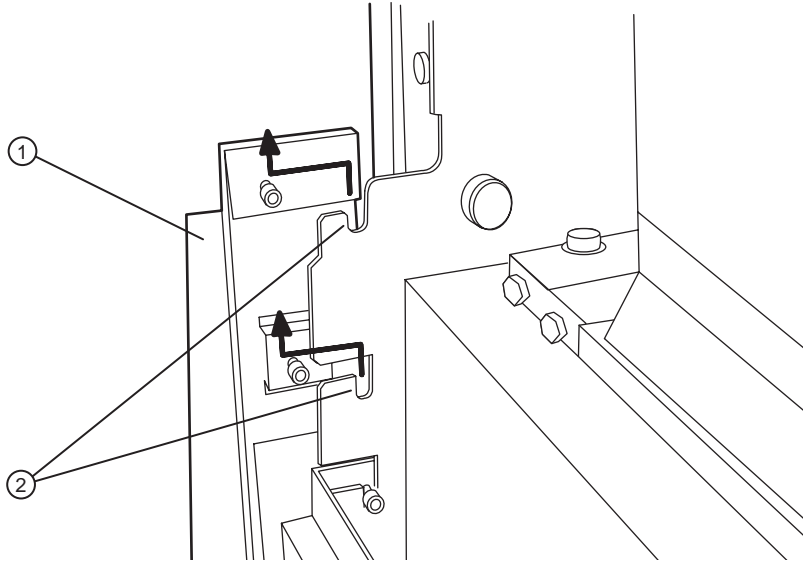

Figure 4-4 Top panel lock slots.
①—Front cover. ②—Bottom segment. ③—Top segment.
2. Lift the top panel up, releasing it from the lock slots on either side, and pull straight out. Refer to Figure 4-4.